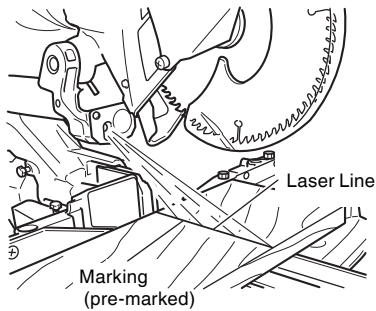

Fig. 21
- (3) After adjusting the position of the laser line, draw a right-angle ink line on the workpiece and align the ink line with the laser line. When aligning the ink line, slide the workpiece little by little and secure it by vise at a position where the laser line overlaps with the ink line. Work on the grooving again and check the position of the laser line. If you wish to change the laser line's position, make adjustments again following the steps from (1) to (3).
**NOTE:** Check and make sure on a periodic basis if the position of the laser line is in order. As regards the checking method, draw a right-angle ink line on the workpiece with the height of about 25/32" (20mm) and the width of 5-29/32" (150mm), and check that the laser line is in line with the ink line [The deviation between the ink line and the laser line should be less than the ink line width (0.5mm)]. (Fig. 21)